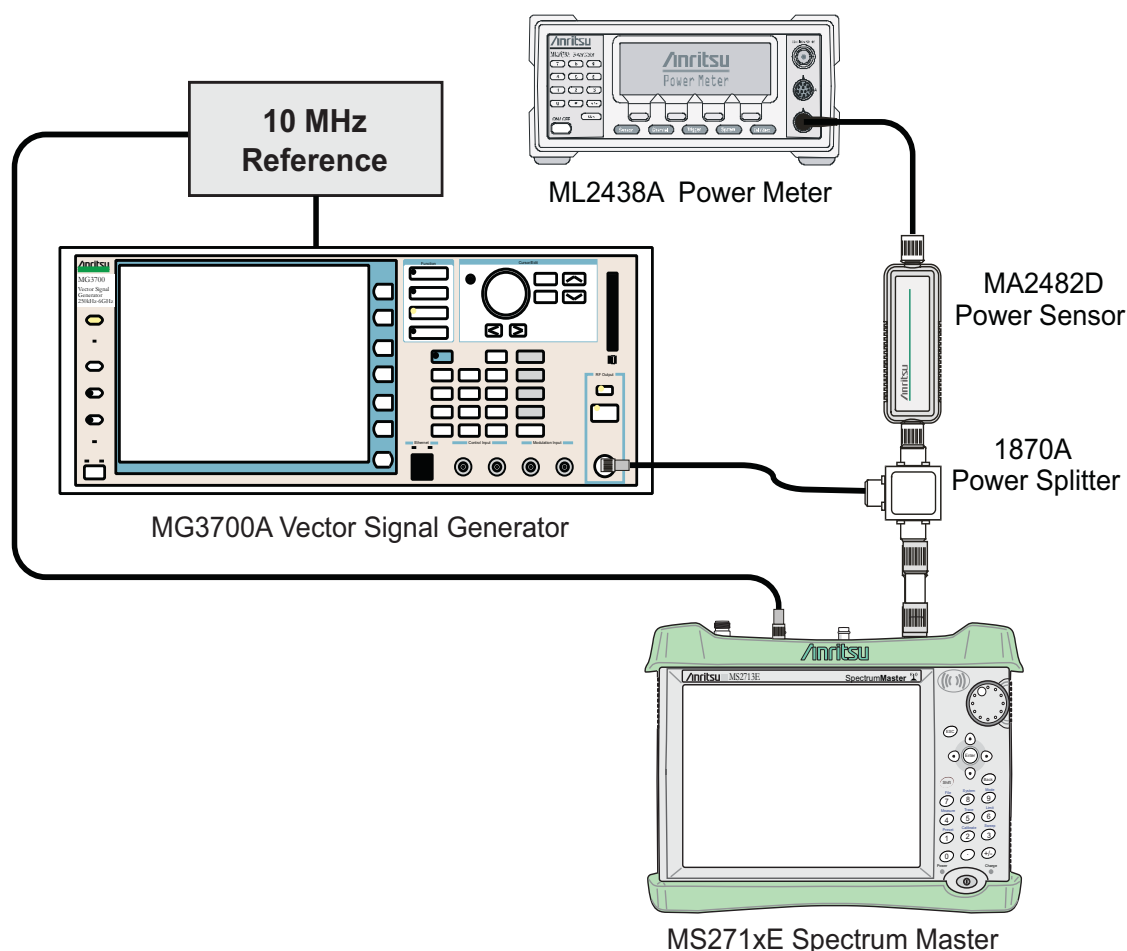

Figure 3-8. GSM/EDGE Signal Analyzer Option Verification
2. Connect the equipment as shown in Figure 3-8.
5. Set the MS271xE mode to **GSM/GPRS/EDGE Signal Analyzer**. Press **Shift** and then press **Preset (1)** to preset the MS271xE.
1. Confirm that the equipment settings are unchanged from the previous test. Refer to Figure 3-8 on page 3-30.